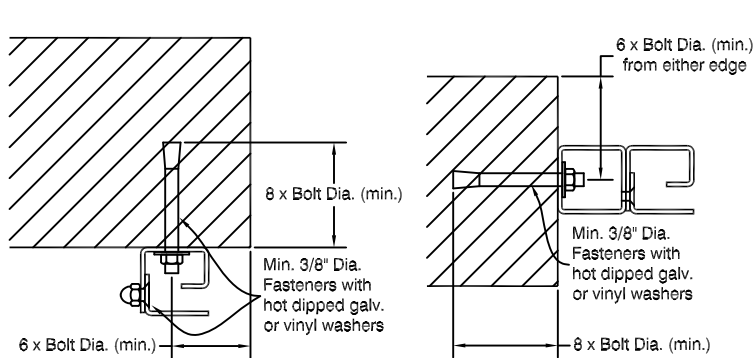

Fig. 3
**!IMPORTANT!** Determine your mounting configuration to ensure compliance with fig. 3 through fig. 7, for proper mounting conditions, in accordance with NFPA 80 (latest edition)
**3) a.** When fastening to masonry (brick, block or concrete) using expansion anchors, anchorage depth is not to be less than 8 times the bolt dia. and not less than 6 times the bolt dia. from the edge of the opening, as shown in Fig. 3. Fasten using a minimum of 3/8" dia. fasteners equal to that specified in the latest edition of NFPA 80 section 6-4.1.3.